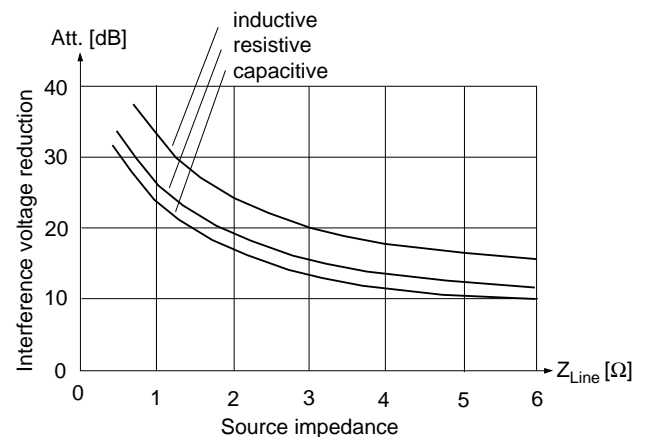

Fig. 1 Interference voltage reduction with FN/FP filters at $f = 150$ kHz
2. This example shows, that with an inductive source impedance of 3.8Ω , the insertion of the filter results in an interference voltage reduction of approx. 18 dB (see fig. 1).